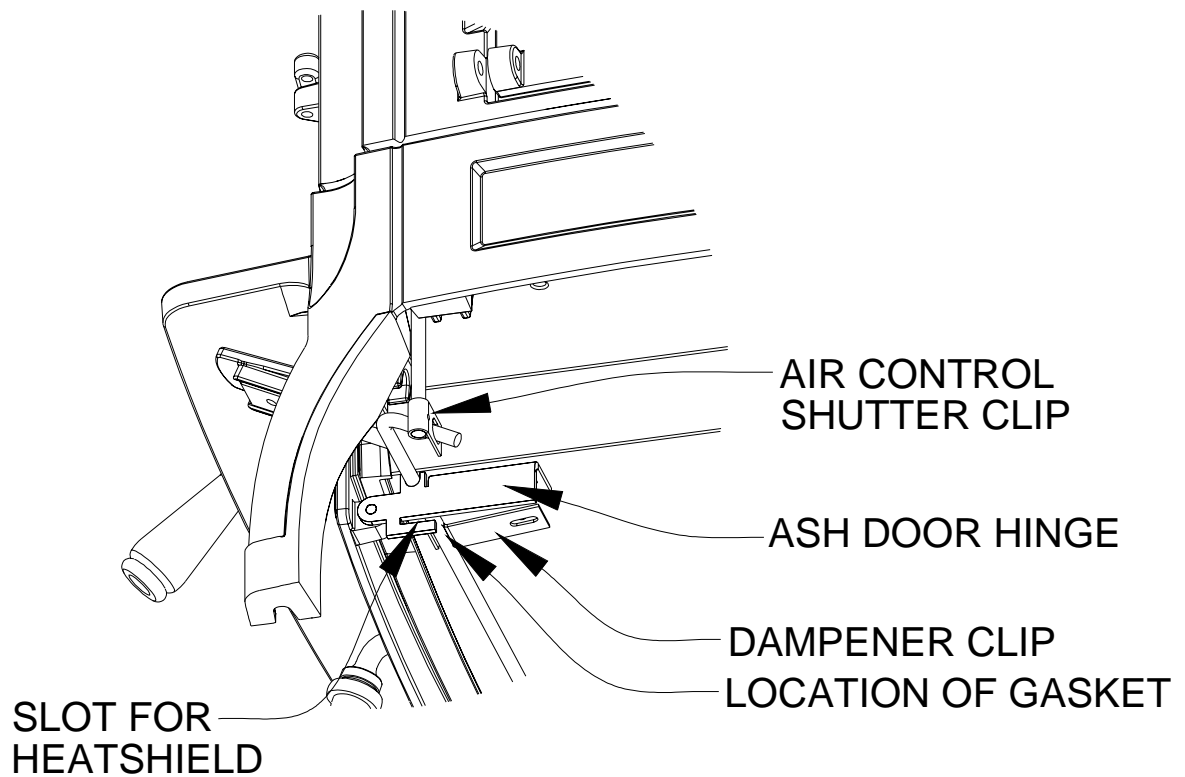

FIGURE 3
- 3) The damaged primary air control link (rod) can now be pulled forward and out of the clips on the left and right side air control shutters (see figure 3), removing it from the stove. Make sure that the short section of gasket remains glued to the primary air control damper clip (see figure 3). Use the new section of gasket provided as a replacement if required.
- 6) Position the ash door and hinges on the bottom of the stove making sure that the primary air link is properly secured between the hinge cutouts and the bottom of the stove (see figure 3). Replace the four 1/4" bolts previously removed and tighten with the 7/16" wrench.